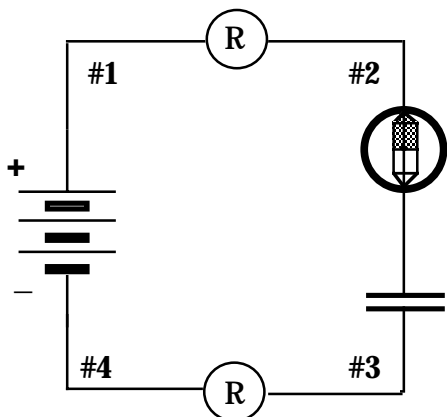
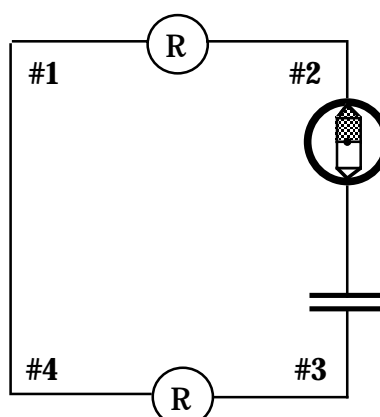

Figure 2.6a
Figure 2.6b
1. Draw an arrow on Figure 2.6a to show where and in what direction charge moves during the charging process. Draw an arrow on Figure 2.6b to show where and in what direction charge moves during the discharging process.
3. Review the arrows you drew on Figure 2.6a and 2.6b to be sure they represent the direction of charge flow as indicated by the compass deflections above.